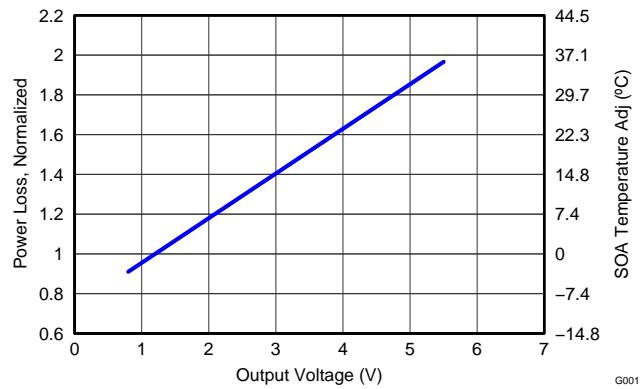

Figure 14. Normalized Power Loss vs Output Voltage
- Normalized Power Loss for output voltage ≈ 0.95 (Figure 14)
- SOA adjustment for output voltage $\approx -7.7^{\circ}\text{C}$ (Figure 14)